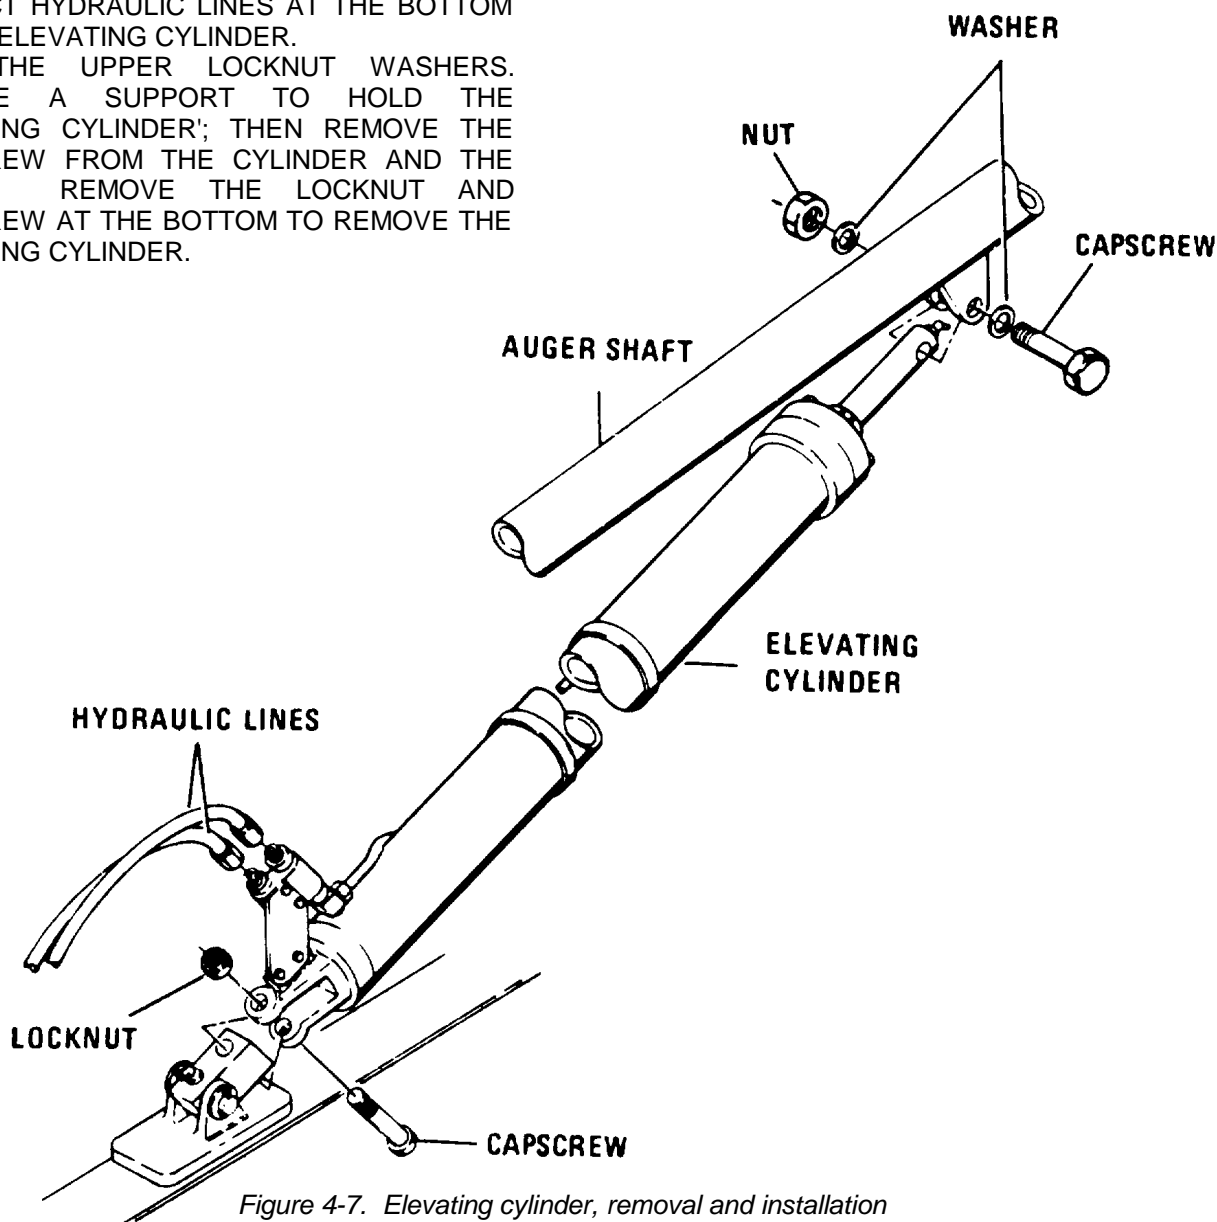

Figure 4-7. Elevating cylinder, removal and installation
(2) *Removal.* Remove elevating cylinder as instructed in figure 4-7.